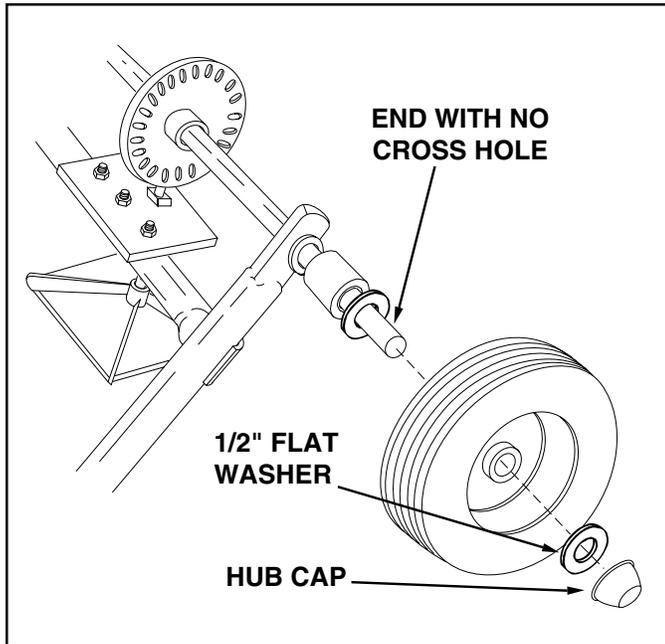

FIGURE 6
9. Place a wheel (long end of hub first) onto the end of the axle that has no cross hole. See figure 6.
10. Place a 1/2" flat washer onto the axle and then lightly tap a hub cap onto the axle until it is snug against the washer and wheel hub. See figure 6.